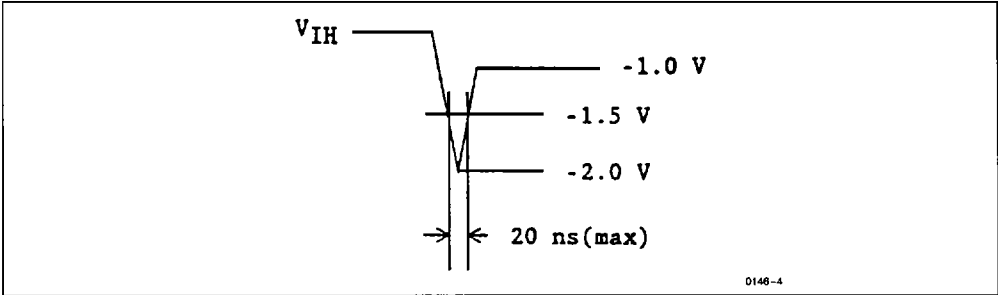

Figure 1. Undershoot of input voltage
2. The device will withstand undershoots to the - 2V level with a maximum pulse width of 20 ns at the - 1.5V level. (See figure 1.)